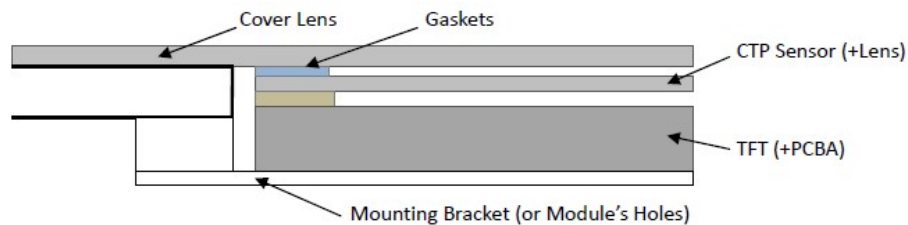

Figure 3
9.3 Additional Cover Lens Mounting (Figure 3)
9.3 覆加盖板 (附图 3)